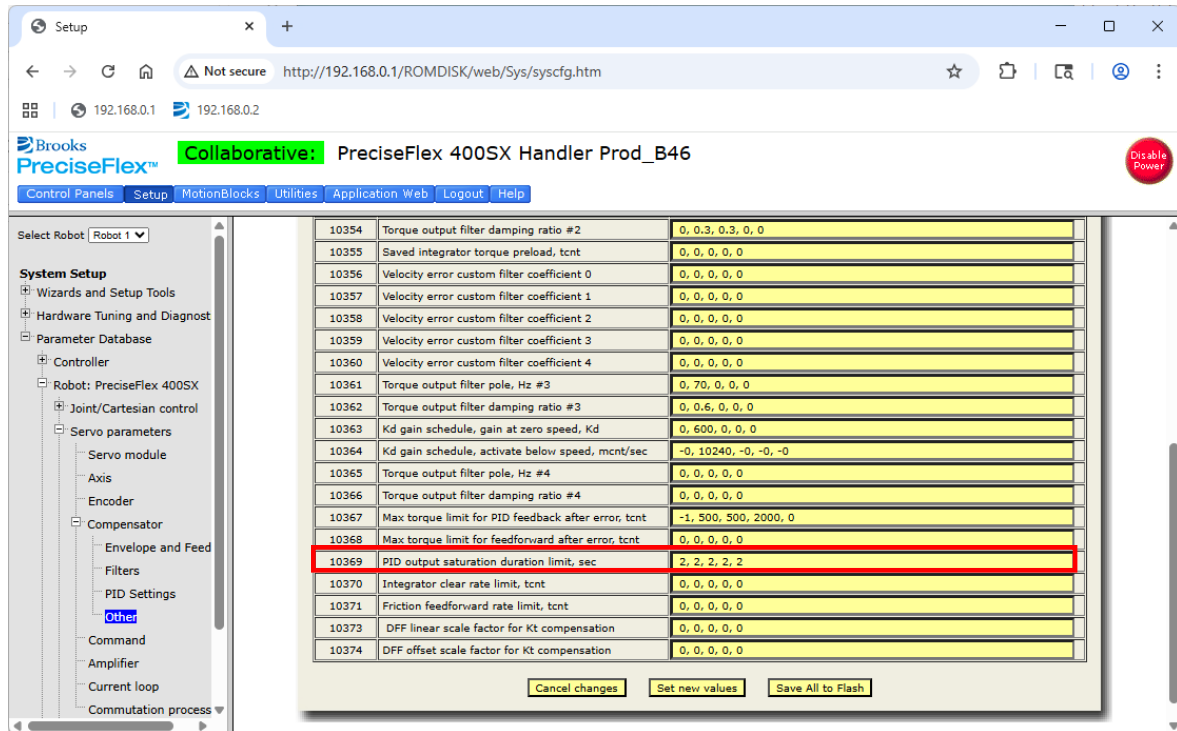

Figure 1: Factory Values for 10369 that cause -3101 Error
- Figure 1 illustrates the problematic factory values of 2, 2, 2, 2, 2